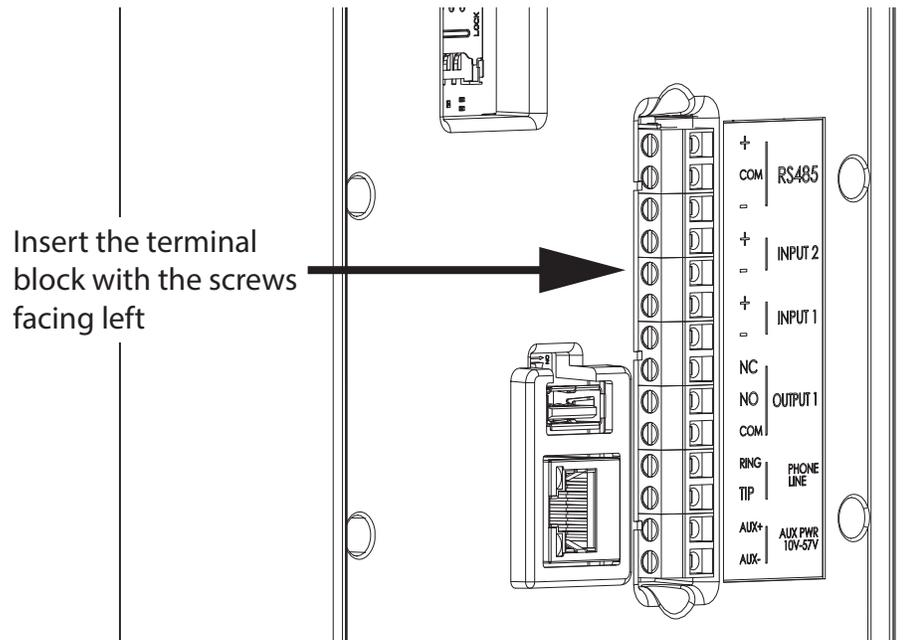

Figure 14. The terminal block
- The terminal block is designed to fit one way only. Insert it with the screws facing left as shown in Figure 14.